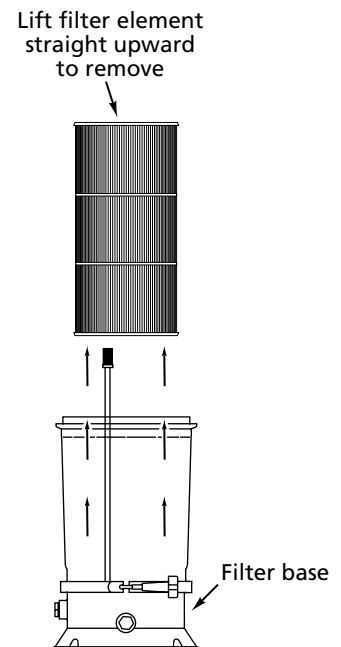

Figure 9
- Lift element out of tank body (See Figure 9). Do not drop filter element. Place element in clean area where it can be hosed down.